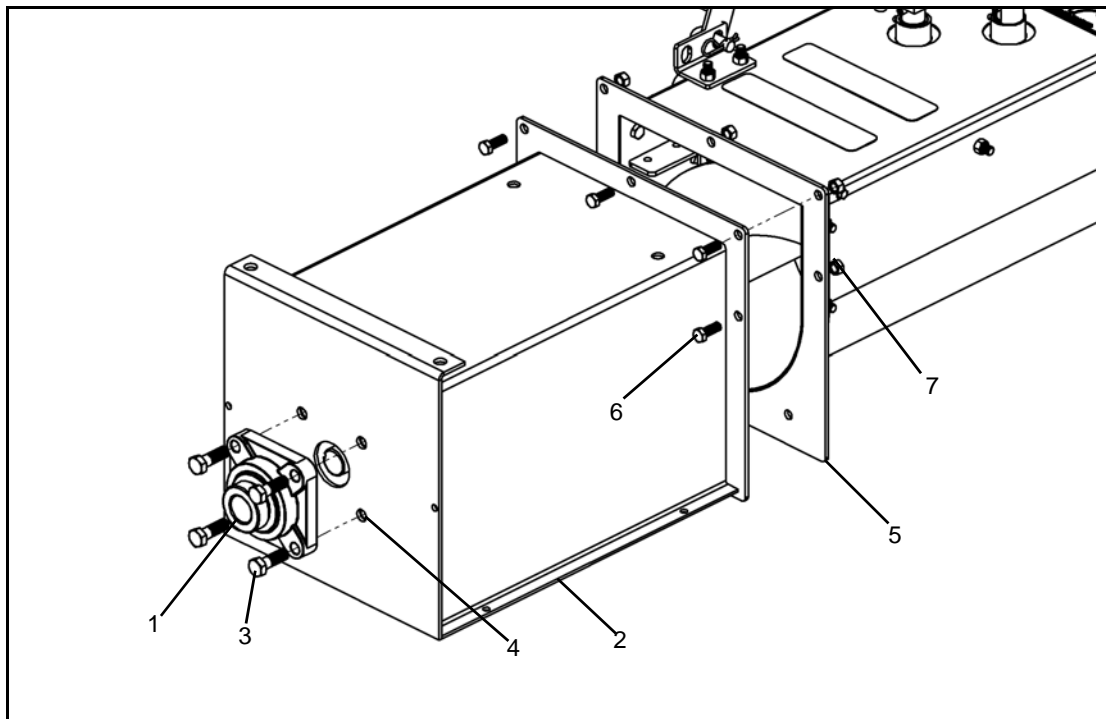
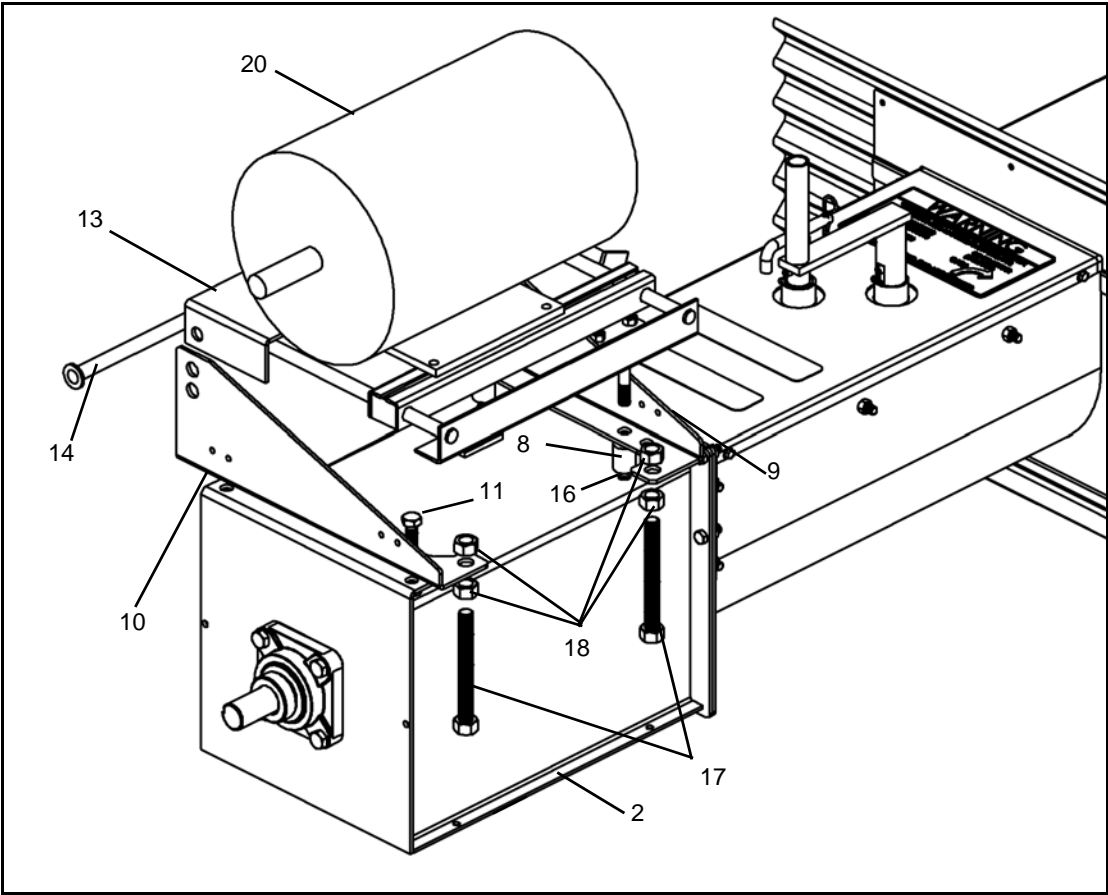

Figure 4.16
Figure 4.17
Note: Refer to **Figure 4.16**, **4.17**, and **4.18** for assembly of the powerhead and discharge units.
1. Mount 1-1/4" bearing with 4 bolt flanges (1) to powerhead (2) using four 1/2" x 1-1/2" bolts (3) and 1/2" locknuts (4) (**Figure 4.16**).
2. Mount powerhead (2) onto u-trough assembly (5) with 3/8" x 1" bolts (6) and 3/8" locknuts (7).
4. Place mount spacers (8) on powerhead (2) (**Figure 4.17**).
5. Place mount plate (9) on mount spacers (8) and attach loosely to powerhead (2) with 1/2" x 2-1/2" bolts (15) and 1/2" locknuts (16).
6. Place mount plate (10) on powerhead (2) and attach securely with 1/2" x 1-1/4" bolts (11) and 1/2" locknuts (12).
7. Place motor mount (13) between the two mount plates (9,10), and insert hinge rod (**Figure 4.17**). Secure with a 1/8" x 1-1/2" cotter pin (19).
8. Adjust mount plates (9,10) if necessary for the mount (13) to fit properly and tighten the 1/2" locknuts (12,16).
9. Thread a 5/8" nut (18) on each adjust bolt (17) and place 5/8" adjust bolts through available hole in front mount plates (9,10). Secure in place using two 5/8" hex nuts (18). Leave adjust bolt loose to allow for later adjustment.
Note: See **Table 4.1** for electrical motor requirements and **Figure 4.17** for the electric motor installation.